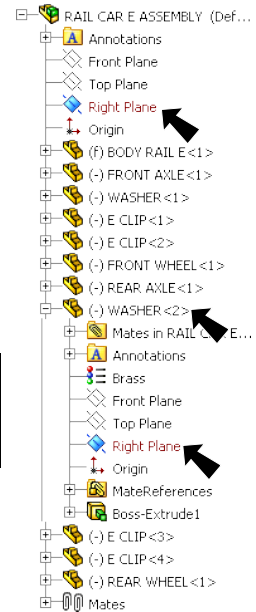

Fig. 25
Step 5. Expand the Design Tree (click +) in the top left corner of the drawing area, **Fig. 25**.
Step 6. Click **Right Plane** , **Fig. 25**.
Step 7. Expand **WASHER2** and click **Right Plane** , **Fig. 25**.